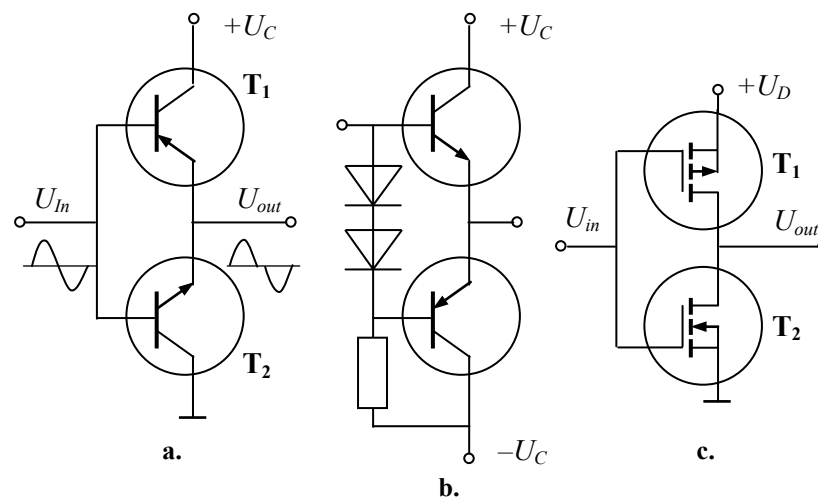

Fig. 2.53
**Push-pull amplifiers.** When a transistor is biased for the class B mode of operation, it clips off half a cycle of the input signal. To reduce distortion, two transistors are used in *push-pull* arrangement that is the pair of identical transistors connected so that the signal can be introduced across. Fig. 2.53,a shows a way to connect a class B transistors by linking an *nnp* emitter follower to *pnp* emitter follower. The load is connected to the emitters of the transistors, which operate as repeaters.
To avoid distortion, diodes are used, which provide the class AB operation in the balanced supplied circuit, as shown in Fig. 2.53,b.
Connecting the  $p$ -channel and  $n$ -channel MOSFETs forms the basic bilateral switch shown in Fig. 2.53,c. This combination reduces the forward resistance, improves linearity, and also produces a resistance, which varies much less with the input voltage. The circuit built on the  $p$ -channel ( $T_1$ ) and  $n$ -channel ( $T_2$ ) MOSFETs is analogous to the class B push-pull bipolar amplifier. When one device is on, the other is off, and vice versa. Push-pull amplifiers are popular in the output stages of the multistage amplifiers.